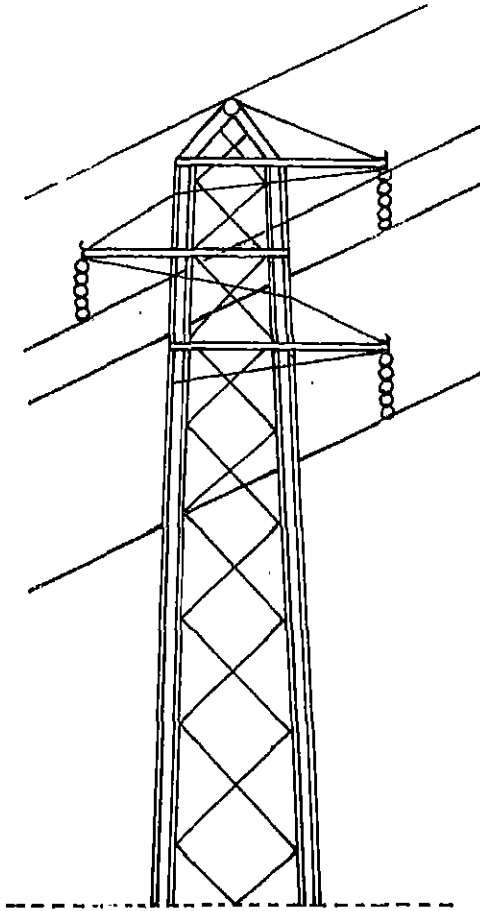

Fig. 6.1 Flexible frame for single circuit 65,000 volt line Transmission Tower
- (i) *Flexible frames*: These are heavier structures than poles but lighter than rigid towers. Generally, they are rectangular in shape and become narrow towards the top as shown in Fig. 6.1.